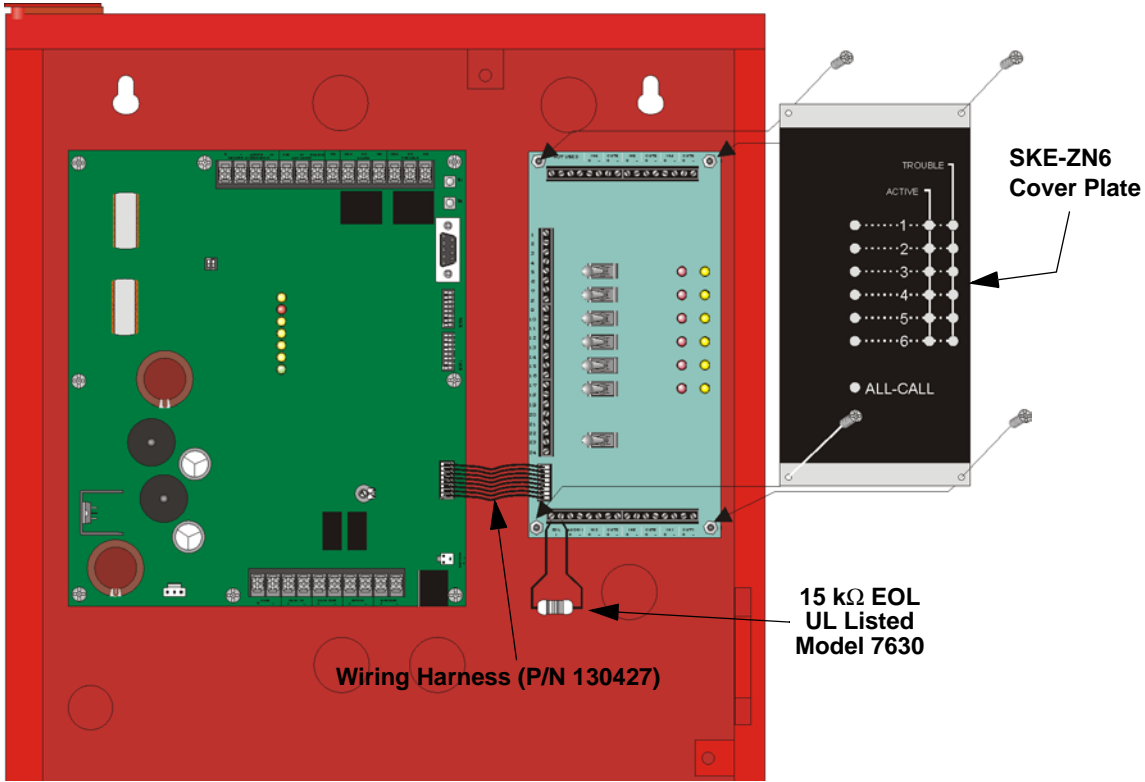

Figure 8-4 View With SKE-ZN6 Installed
- Connect wiring harness to the expansion connector on the SKE450 and to the direct connect pins on the SKE-ZN6. See Figure 8-4.
- Attach the SKE-ZN6 cover plate to the SKE-ZN6. See Figure 8-4.
In order to gain access to the terminals on the SKE-ZN6, the cover plate must be removed. See Figure 8-4.